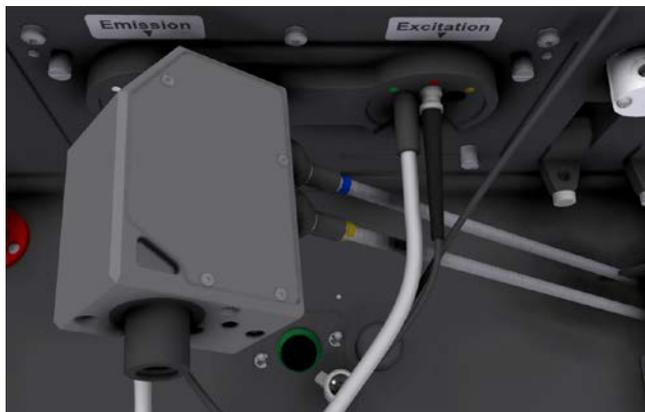

Figure 20: Feeding the light guides of the TRF-optic head
1) Open the lid of the reagent box of the FLUOstar/POLARstar Omega and remove top optic if installed. Take the body of the TRF-optic head in the left hand, the light guides in your right hand and feed them through underneath the already installed excitation light guides. The light guides should be carefully placed outside of the instrument to prevent them from scratching the inside of the reagent box. (Figure 20).